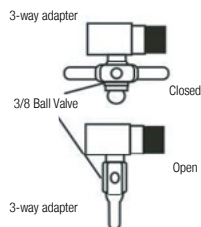

FIGURE A-3
3. Install 1/4" metal ball valve on the feedwater connection adapter (3-way adapter) by means of teflon band so as to turn on/off easily (Figure A-3).